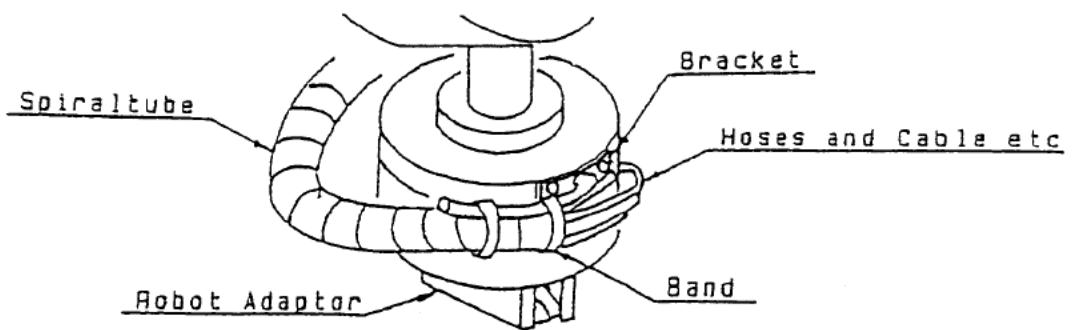

Fig. 5. An example of cable fixing
**⚠ CAUTION** Robot side cables must be securely tied together with other cables and tubes and fixed around the robot adaptor's connector part by using a spiral tube or banding band, etc. Also ensure that cables and tubes are free of any excessive force while the robot's wrist axis is rotating. Excessive force applied onto cables and tubes may break a connector of the joint part or cause open-circuit. An example of cable fixing by a bracket is shown in Fig. 5.